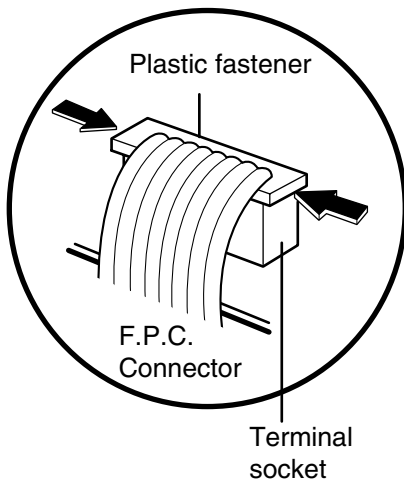

Figure 4
Follow the steps below as illustrated in Figures 4 and 5 to remove the F.P.C. connector.
- (1) Hold the edges of the plastic fastener with thumb and forefinger. (Figure 4)